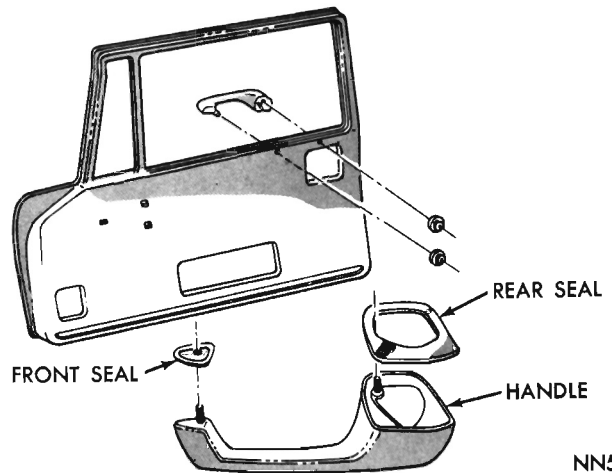

Fig. 16 - Front Door Handle
- (1) With door glass in up position, remove door handle attaching nuts from mounting studs (Fig. 16) and link from handle to lock.
- (2) Lift handle up and remove from door.